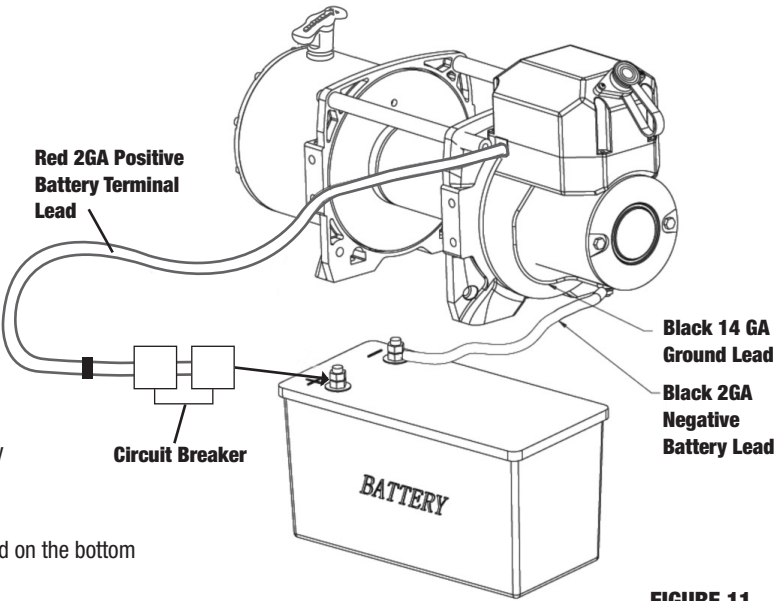

FIGURE 11
- Step 2** Follow electrical connection diagram (**FIGURE 11**). Bolt the circuit breaker to the terminal end of the Red 2 GA battery lead that is factory connected to the sealed solenoid switching pack. Now connect the circuit breaker to the positive battery terminal.